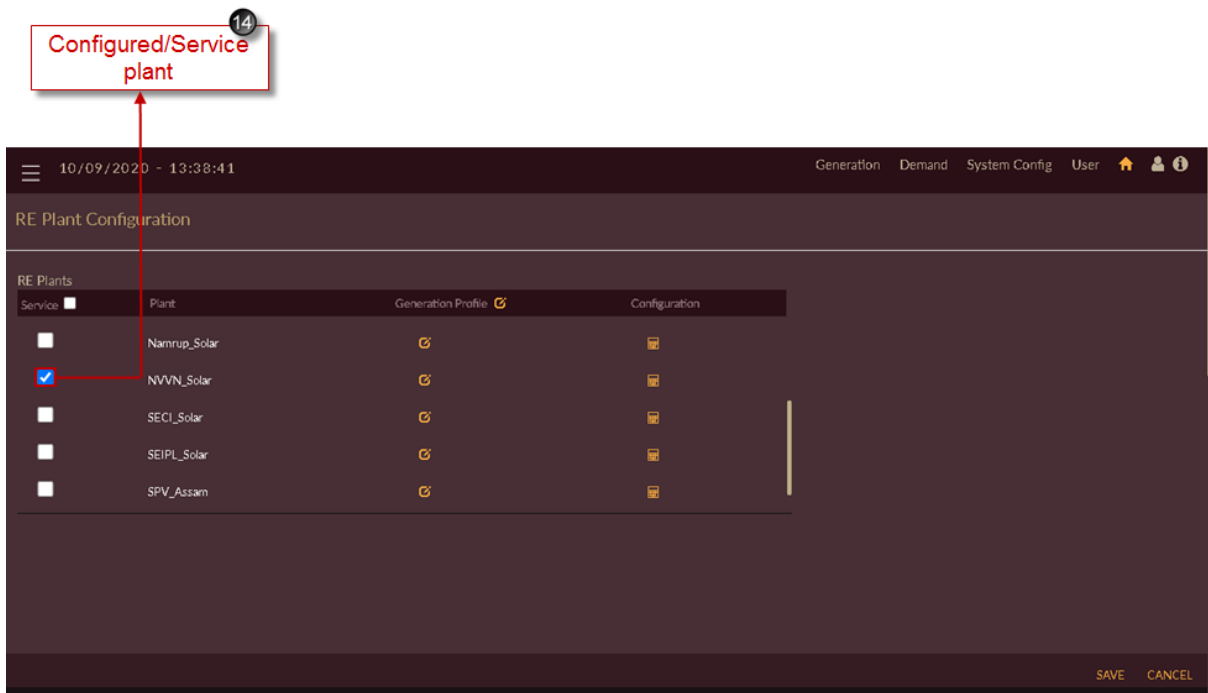

Figure 222. Successful Configuration of RE Plant
14. Figure 222 shows configured RE plant into the IRM Base case scenario. Blue tick indication  appears for the plant which is configured or participating into the scenario for IRM studies.